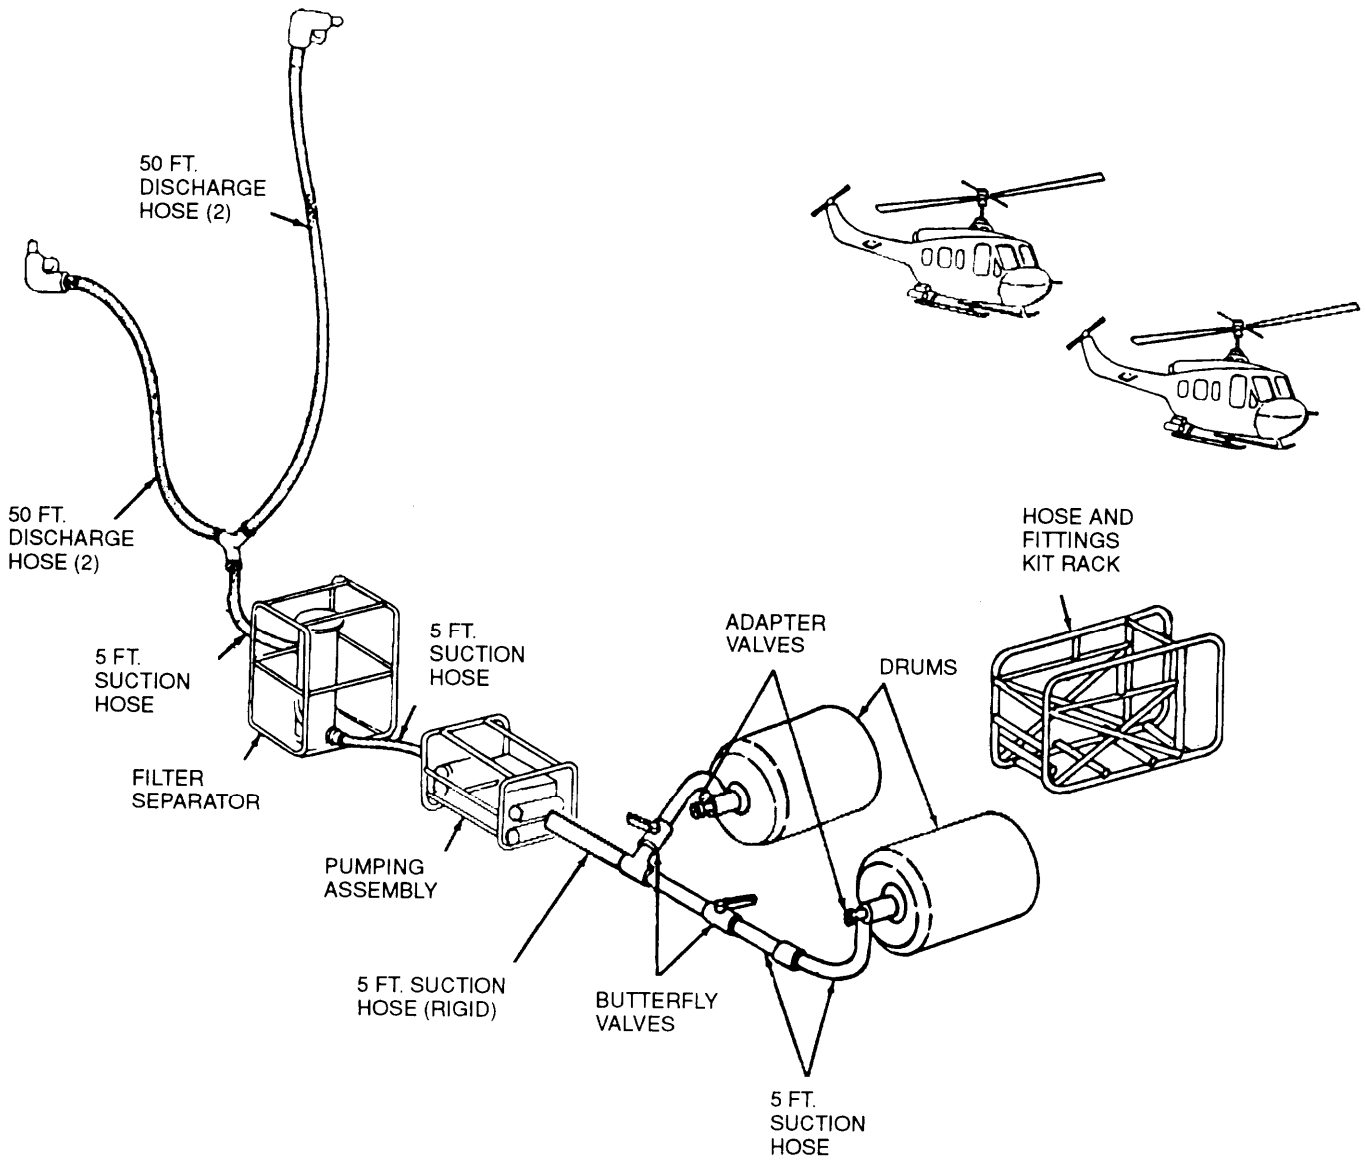

Figure 1-1. Typical Layout of FARE.
- b. Model Number and Equipment Name. Forward Area Refueling Equipment, LaBarge Model Number LPI-F0500. Refer to Figure 1-1.